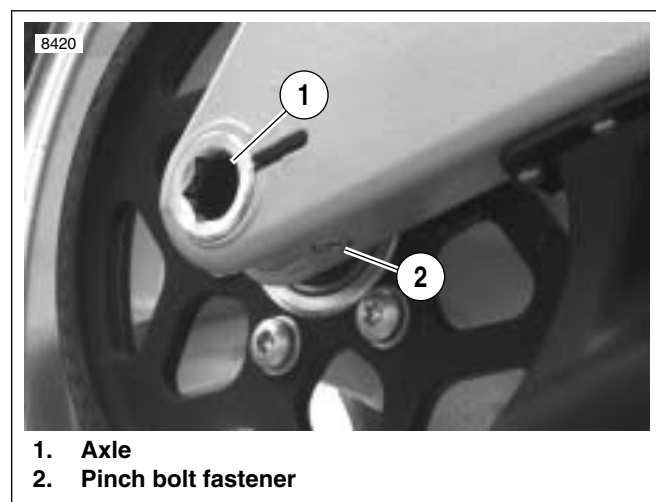

Figure 2-25. Rear Wheel Mounting, Right Side
7. See Figure 2-25. Tighten rear axle (1) to 23-27 ft-lbs (31.2-36.6 Nm), back off two full turns and then retighten to 48-52 ft-lbs (65.1-70.5 Nm).
8. Tighten pinch fastener (2) on right side of swingarm to 13-15 ft-lbs (18-20 Nm).